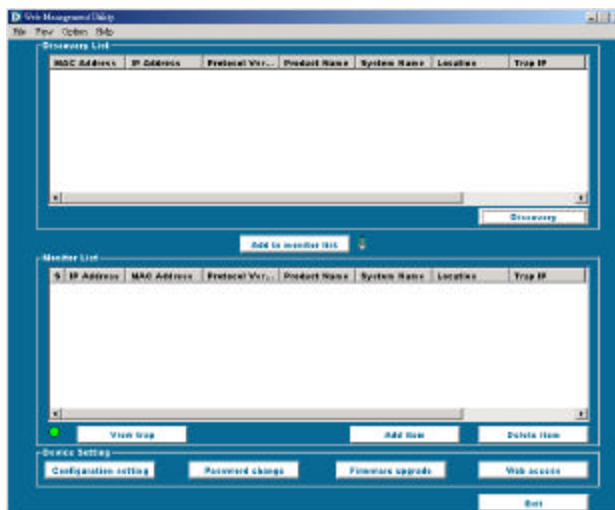

Figure 1. Web Management Utility
5. Upon completion, go to **Program Files** -> **web\_management\_utility** and execute the Web Management utility. (Figure 1.)